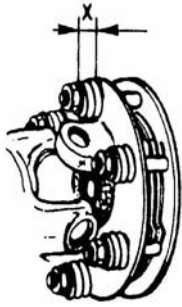

Fig. 19
-Take off the guard - Slacken nuts and lock nuts until the springs can easily turn by hand. - According to the power of the tractor used, adjust the spring length in accordance with the dimensions given here (turns of nuts and maximum length of springs) (See fig. 19 and 20).